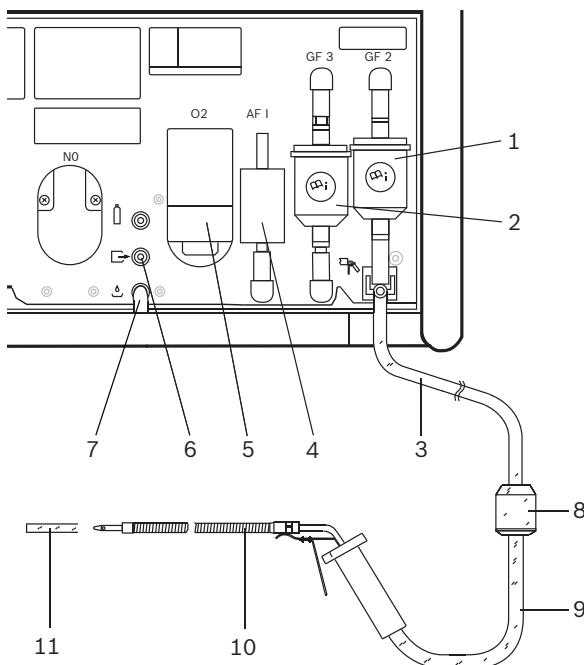

Fig. 3: BEA 060
- Replacement of coarse filter GF1 (fig. 3, pos. 8) in sampling hose.
- Replacement of coarse filter GF2 (fig. 3, pos. 1), refer to Section 5.4.4.
- Visual inspection of sampling probe (fig. 3, pos. 10).
- Replacement of activated charcoal filter (fig. 3, pos. 4) in zero gas path.